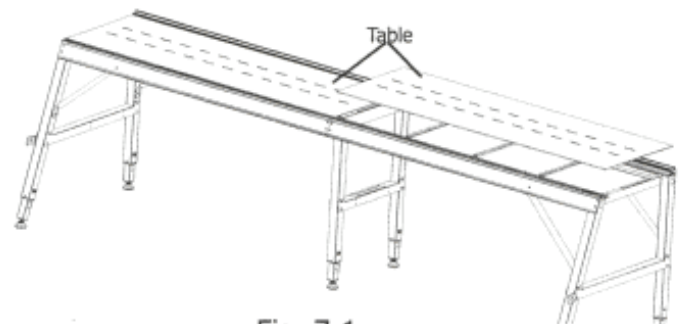

Fig. 7-1
**7-1:** Lay the Plastic Table on the Table Supports, with the textured surface side UP, as shown in Fig. 7-1.